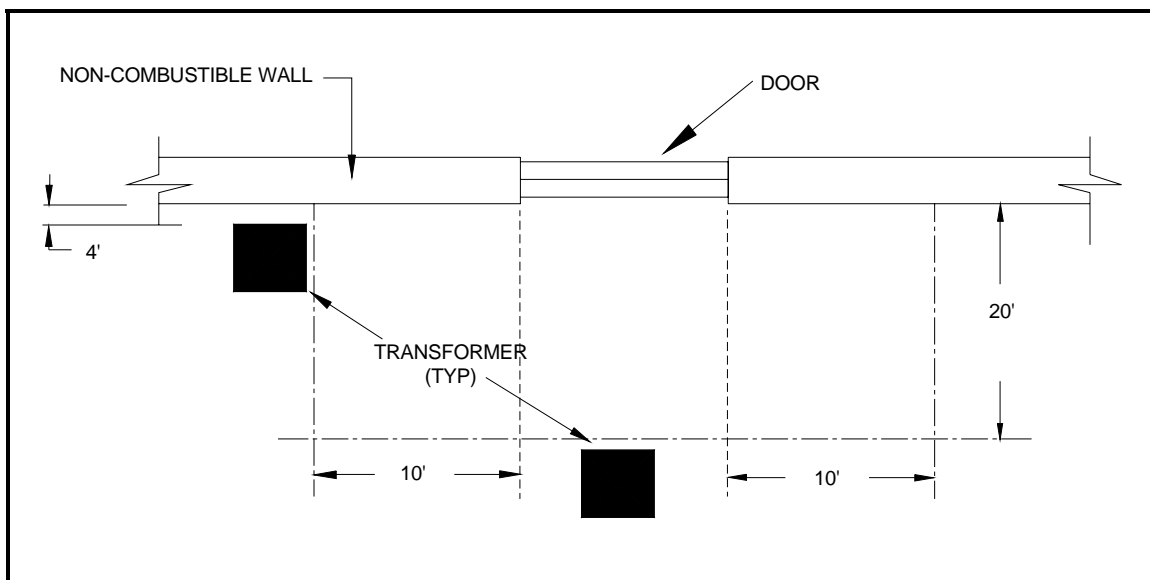

Figure 2 – Clearance From Door (Non-Combustible Wall)
2.1 Padmounted type transformers shall not be located within a zone extending twenty feet outward and ten feet to either side of a building door. (See Figure 2)